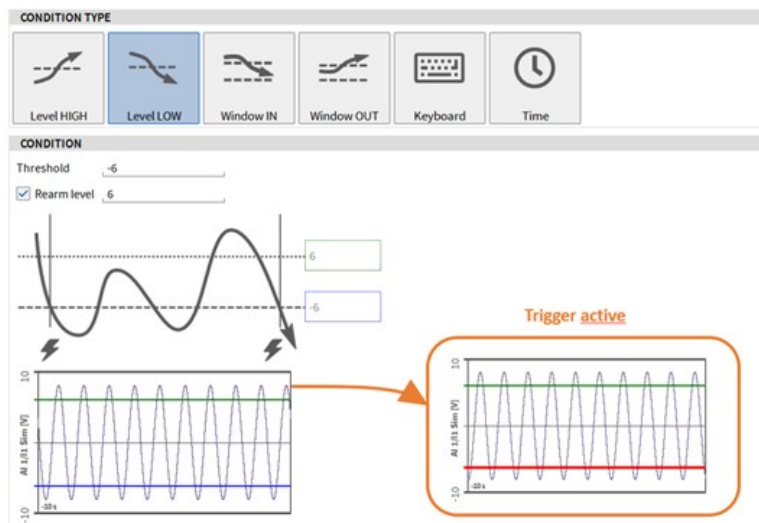

Fig. 9.7: Trigger on *Level LOW*
- **Level LOW:** Activate Event if selected signal falls below defined Threshold. A *Rearm* Level that must be passed before the trigger is activated again can optionally be defined (see Fig. 9.7).